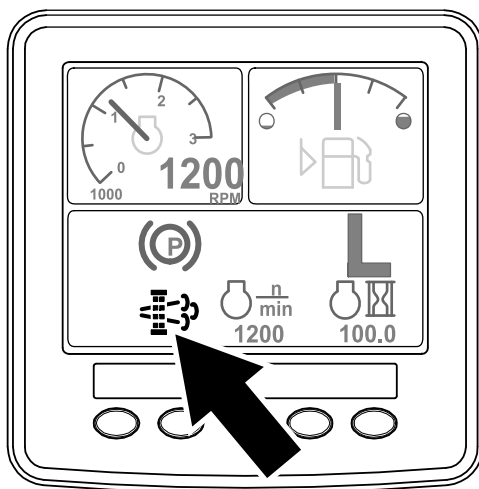

Figure 45
- The parked-regeneration requested icon displays in the InfoCenter (Figure 45).